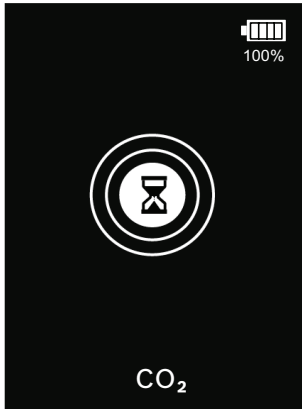

Fig. 5: Warm up cycle
- ⇒ *To prepare the sensor, the IR LD 1.0 will automatically complete a 50–60 second warm-up cycle. The warm-up cycle is indicated by an hour-glass surrounded by a series of concentric rings illuminating from the center outwards (see Fig. 5).*